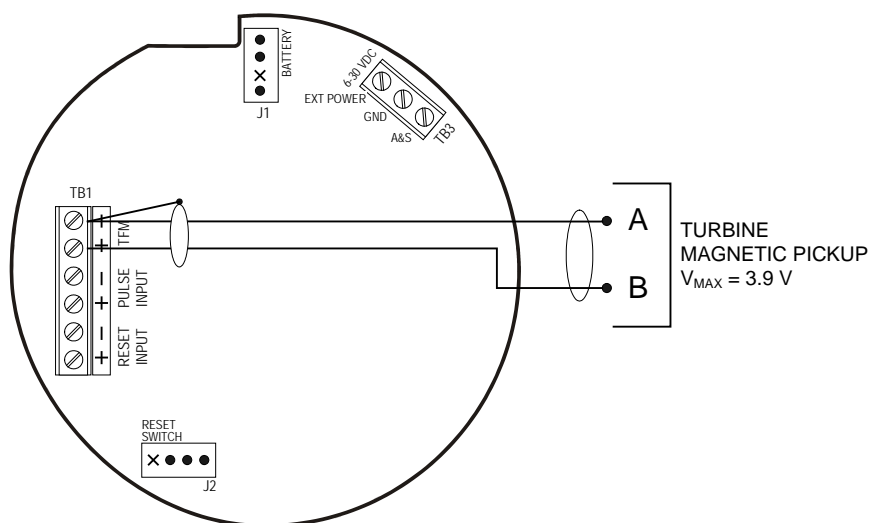
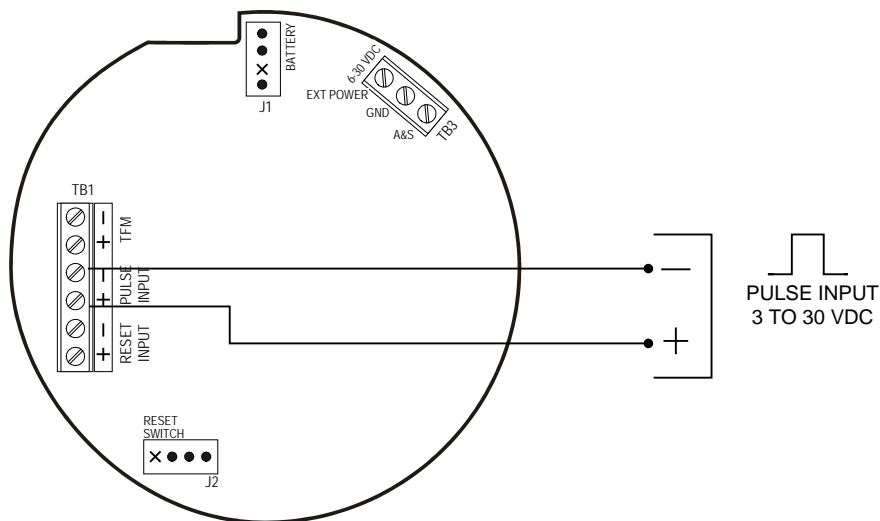

Figure 2.9—Flowmeter input wiring
Figure 2.10—Pulse input wiring
6. Connect the flowmeter or pulse input wiring to terminal block TB1. See Figure 2.9, page 22, and Figure 2.10, page 22.